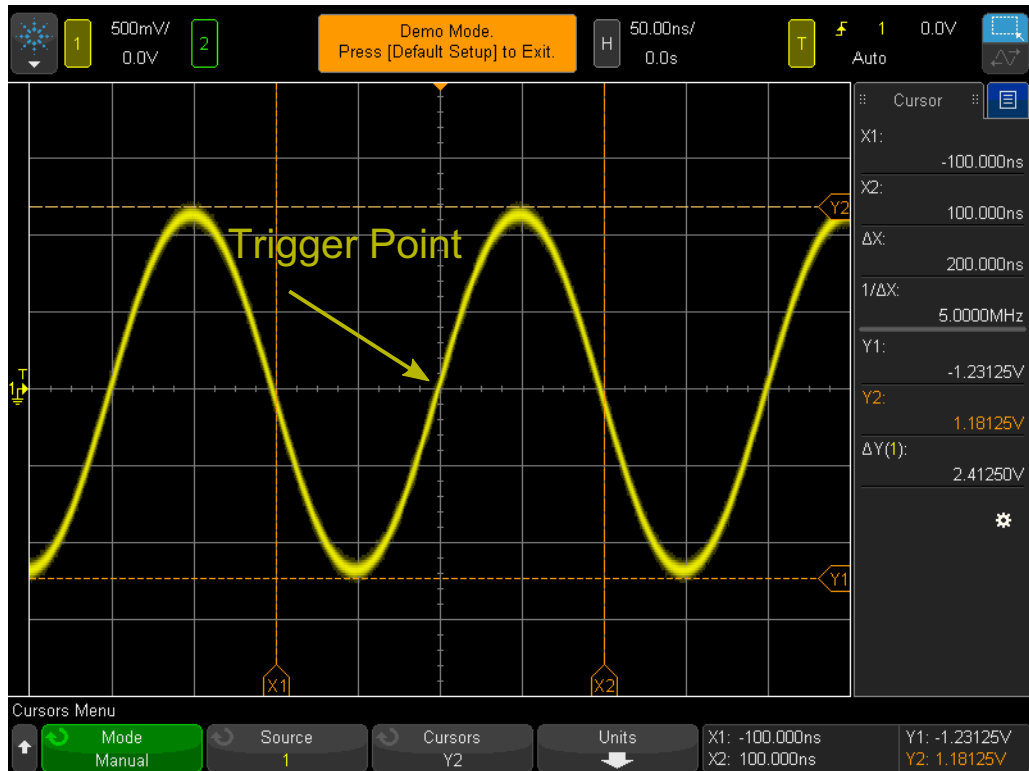

Figure 12 Using the scope's cursor measurements
Let's now use the scope's "cursors" function to make these same voltage and timing measurements; but without having to count divisions and then multiply by scaling factors. First, visually locate the [**Cursors**] button in the Measure section of the front panel as shown in Figure 12.
- 23 Your screen should now be similar to Figure 12, What are the period, frequency, and peak-to-peak voltage of this signal (cursor read-out is on the right-hand side of the display)?